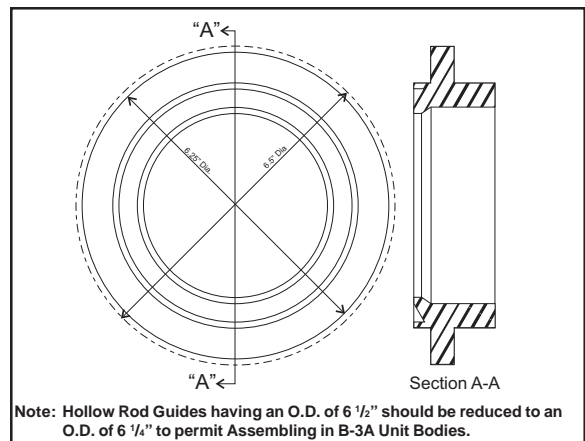

Figure 49 - Hollow Rod Guide Modification
Hollow rod guides which have $6^{1/2}$ " shoulder stops (OD) cannot be used in $6^{1/2}$ ", $7^{1/2}$ ", or $8^{1/2}$ " piston assemblies, but may be used in 9" or 10" assemblies. However, they may be altered to fit all assemblies as shown in Fig. 49.
NOTE: Hollow rod guides which have $6^{1/2}$ " shoulder stops (OD) cannot be used in $6^{1/2}$ ", $7^{1/2}$ ", or $8^{1/2}$ " piston assemblies, but may be used in 9" or 10" assemblies. However, they may be altered to fit all assemblies as shown in Fig. 49.